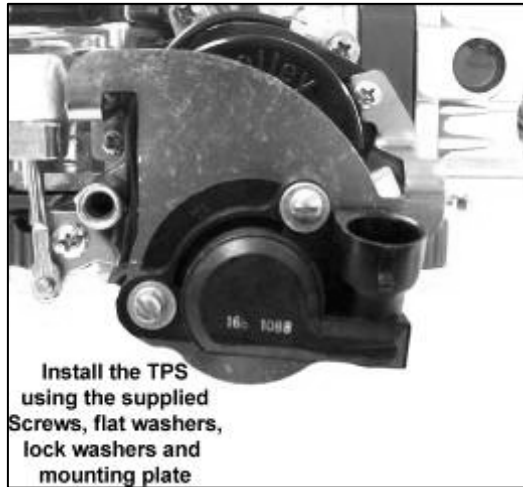

Figure 12
10. Install the Throttle Position Sensor to the bracket using the supplied screws, flat washers, lock washers, and mounting plate. The TPS bracket is designed so the TPS can be adjusted to obtain the proper voltage needed for the application it is being utilized for. (See figure 12)